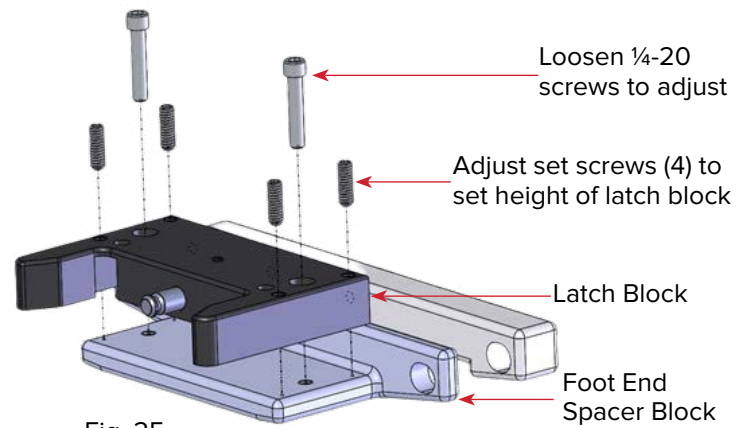

Fig. 25
4. Begin by adjusting the height of the Foot Latch Mounting Block on the existing CT, by loosening the Locking Screws (2) ¼-20 bolts (Fig. 25).